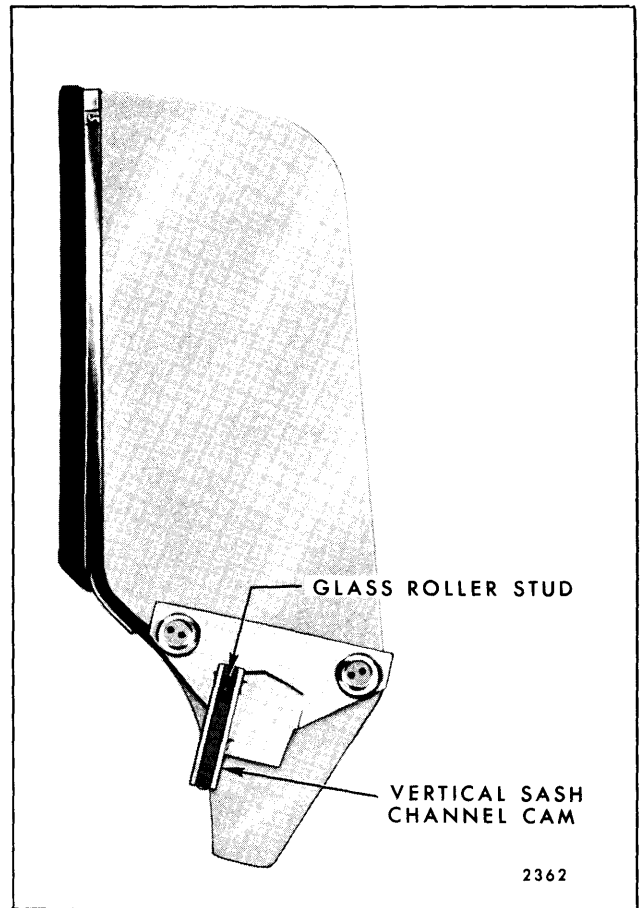

Fig. 7-28—Rear Quarter Window Assembly - "E-47" Styles
6. Pull quarter glass forward. Remove glass in-board of side roof rail. Figure 7-28 shows quarter glass after removal.